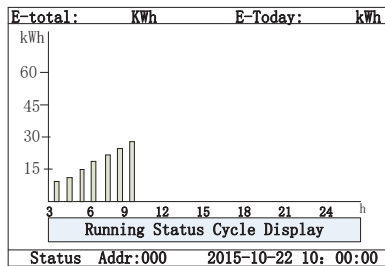

Figure 3.4 Normal Operation Status
9.) When the LCD screen shows the normal operation status (Figure 3.4) and the “RUN” light on the LED panel lights up, it indicates that the grid connection and power generation are successful.